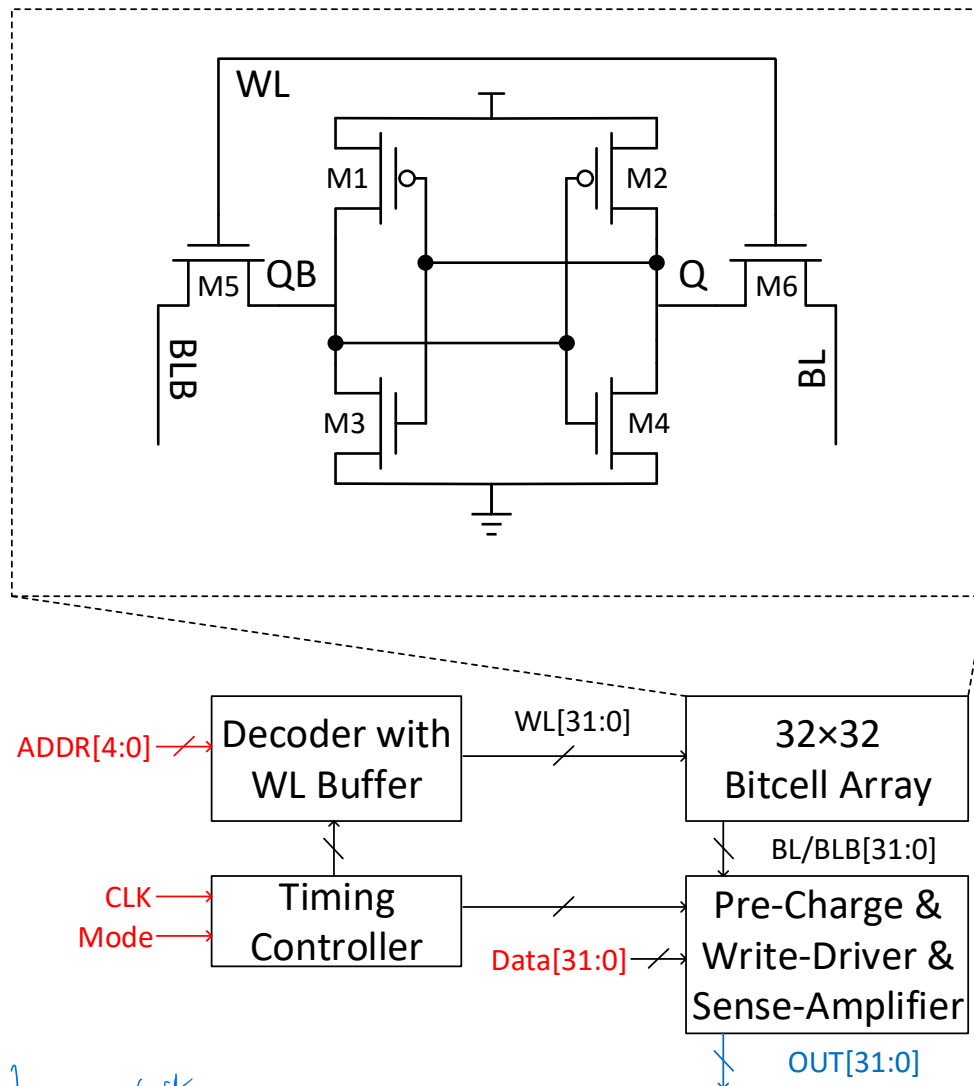

Figure 1: The block diagram of 1Kb SRAM array. The schematic of the bitcell is shown above. Note that all input in red and output in blue.
In this phase, you should learn **architecture and the mechanism** of read/write operations from your textbook [1] chapter 12. Fig .1 shows the architecture of this project with input signals in red and output signals in blue. The interconnected signals of each block do not have to be the same as Fig .1, but the input/output signals of the total SRAM are fixed.
For the row circuits, consisting of decoder and wordline (WL) buffers, the input of the decoder is the 5-b row address for 32 rows. The column circuits consist of pre-charge circuits (PC), write drivers, and sense amplifiers (SAs). For the core array, the bitcell is shown in Fig .1, which is the conventional bitcell of 6T SRAM. For the timing controller, you should generate all the waveforms by the **posedge input of CLK** with the different operation modes. Mode = 1 for read-mode and 0 for write-mode.